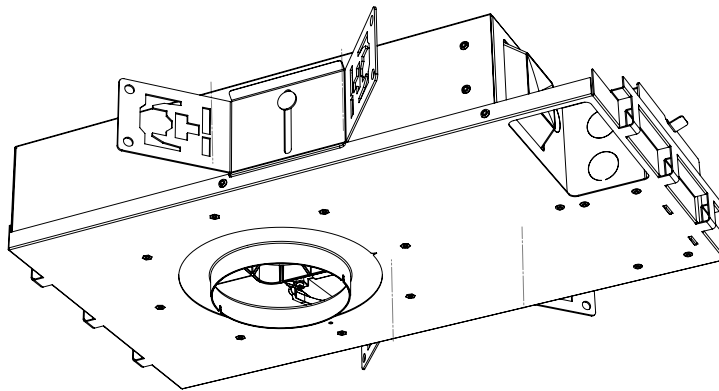

fig. 7
- b. Run the bracket's bolt through the hole in the side of the housing. (see fig. 7)